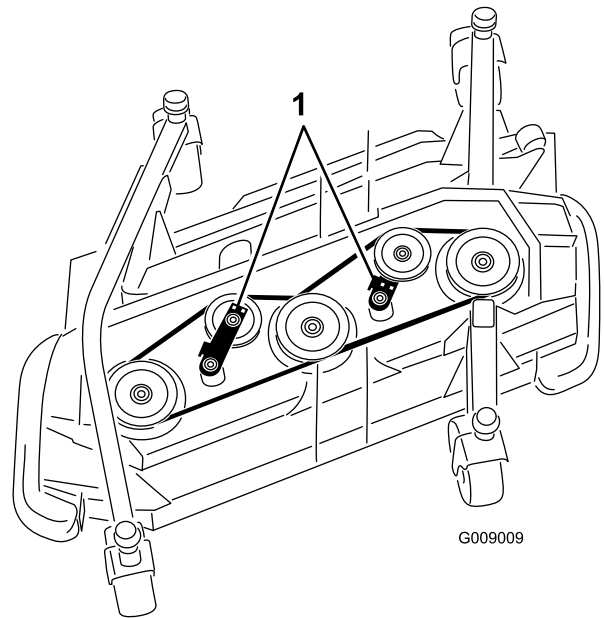

Figure 83
3. Using a ratchet wrench or similar tool, move the idler pulleys (Figure 83) away from the drive belt